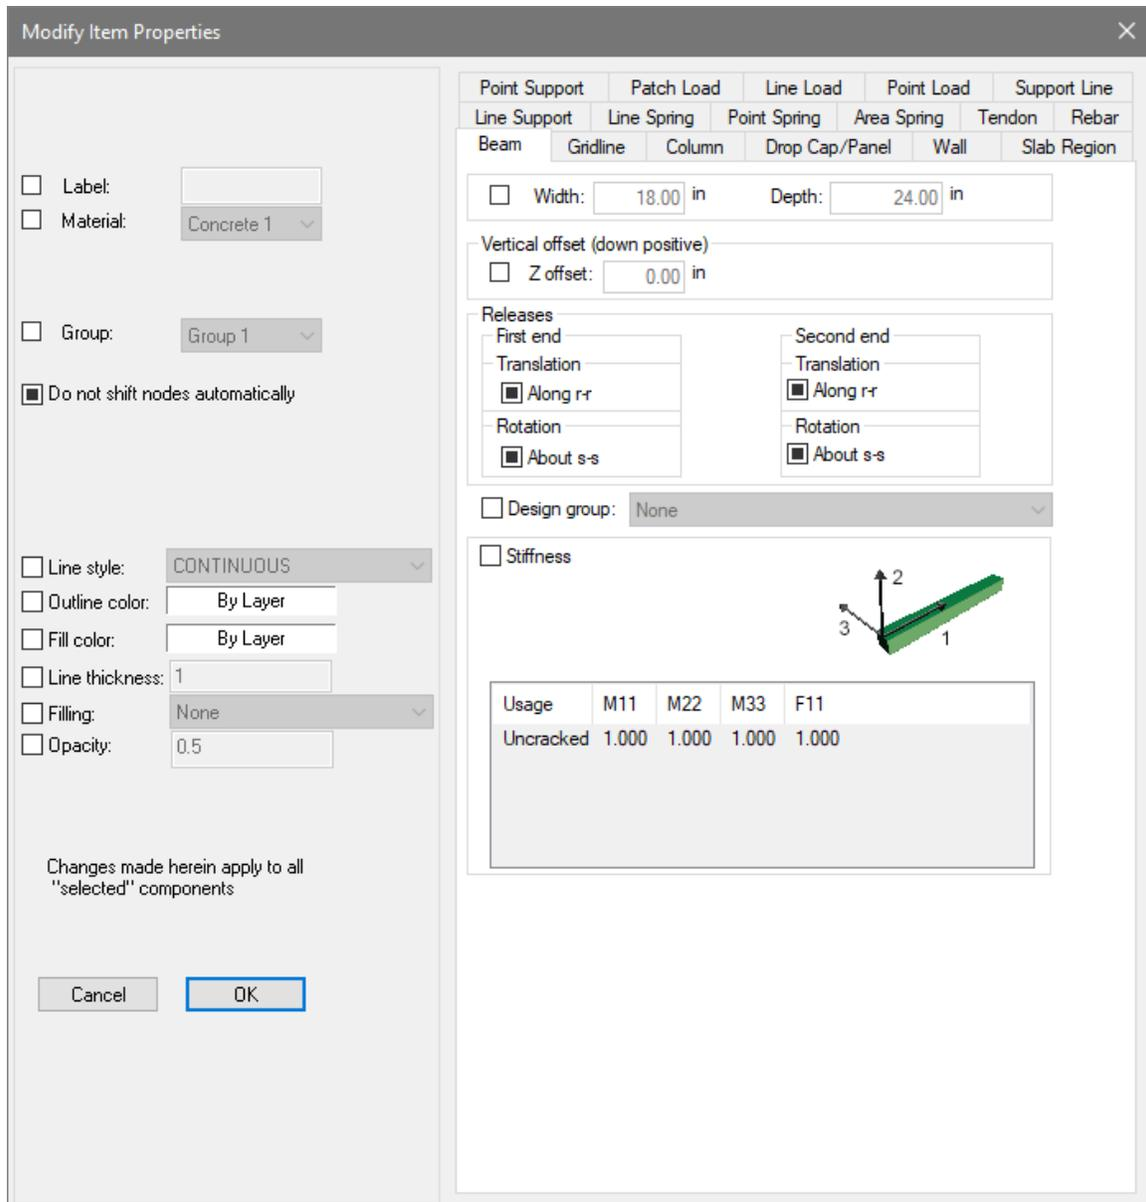

Figure 8-2
- Go to *Modify* → *Properties* and click on the *Modify Selection*  icon. This will open the *Modify Item Properties* dialog window as shown in **FIGURE 8-2**.